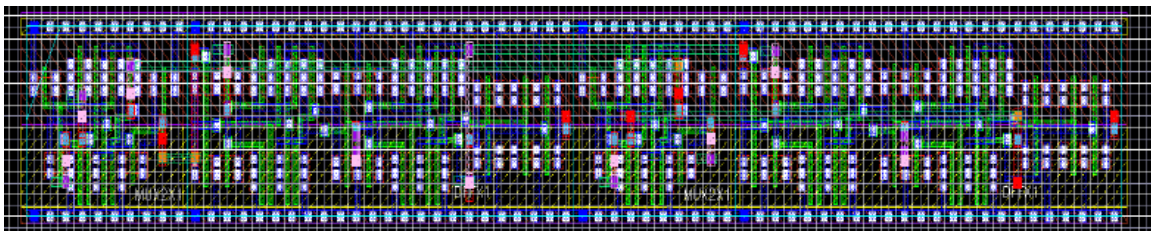

Figure 4 Example place and route of Boundary Scan Cell (BSC)
- a. Note that when placing FML\\_BSC, you must calculate the PR boundary to be the same width and height of the placed cell so that the final FML\\_BSC has the **same height as your standard cells** (without routing channels), and can abut cleanly with your standard cells, see Figure 4.